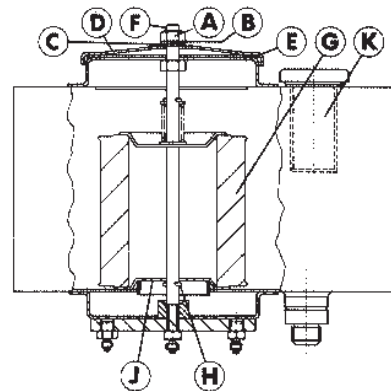
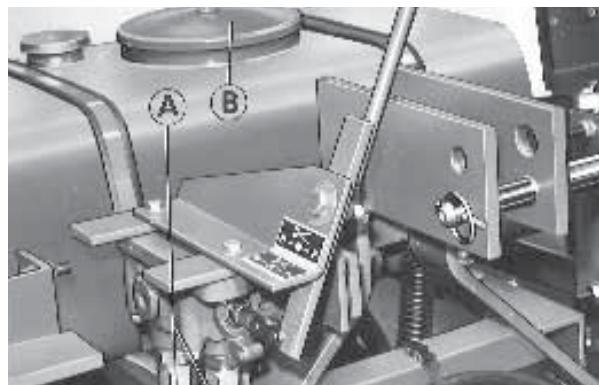

Fig.16
Fig.17
(Fig. 16 and Fig. 17)
- Remove the return hose at the valve elbow (A Fig. 17) to completely drain the tank of oil. Fit a new filter in the tank and refill with new Shell Tellus 46 oil (capacity 40 litres (9 imp. gallons) 42.3 US quarts).
- To change the filter (Fig. 16): Unscrew the nut (A) and remove washer (B) sealing washer (C) cover plate (D) and sealing ring (E). Unscrew the filter bolt (F) and withdraw the element (G) from the tank. After taking out the split pin (H) the filter and bottom plate (J) can be removed from the filter bolt. Refit a new element and re-assemble in the reverse order.
- The oil strainer (K Fig 16) should be withdrawn and thoroughly cleaned.